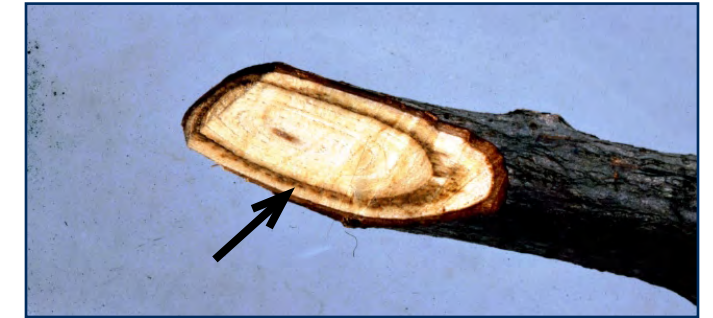

Fig. 6. Cross section of Dutch Elm Disease-infected branch; notice the brown, diagnostic streaking.6
Symptoms can appear anytime throughout the growing season. Within the tree, branches and stems of DED affected trees will show dark streaking in the xylem (wood) vessels, or sapwood in newly formed branches (Fig. 6). Tree death may require 1 or more years depending on the severity of the infection and susceptibility to DED. Keep in mind other diseases and disorders can cause similar yellowing/shriveling of leaves in elm, including: elm yellows, bacterial leaf scorch, and nutrient deficiencies such as iron chlorosis.
If flagging is noticed in the tree canopy, it is advised to take a sample from the affected branches and cut a cross section out of a branch. If there is a brown streak or ring present, then DED is likely present (Fig. 6). Flagged branches can be cut back below the level of the discoloration to stop or slow the spread throughout the canopy. Pruning should occur immediately after wilting symptoms appear. For best results (67% success rate), pruning 10 ft or more below the last area of streaking is recommended (2). Best control is achieved by pruning far below all evidence of streaking and removing all points of infection. Success of pruning to remove disease is greatest when less than 5% of the tree canopy is affected. The odds of successful pruning decrease with an increase in affected canopy, reaching a 0% chance of success when there is over 20% canopy infection (2). Full tree removal is also an option.